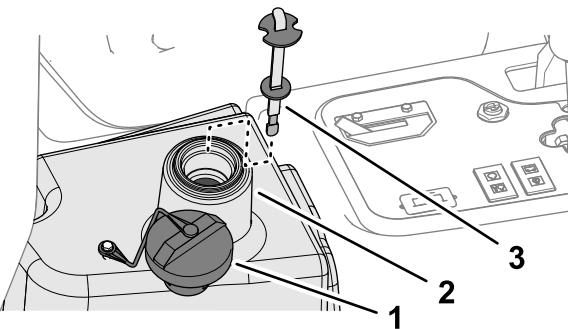

Figure 93
4. Fill the reservoir (Figure 93) with approximately 22.7 L (6 US gallons) of hydraulic fluid; refer to Hydraulic Fluid Specifications \(page 59\).